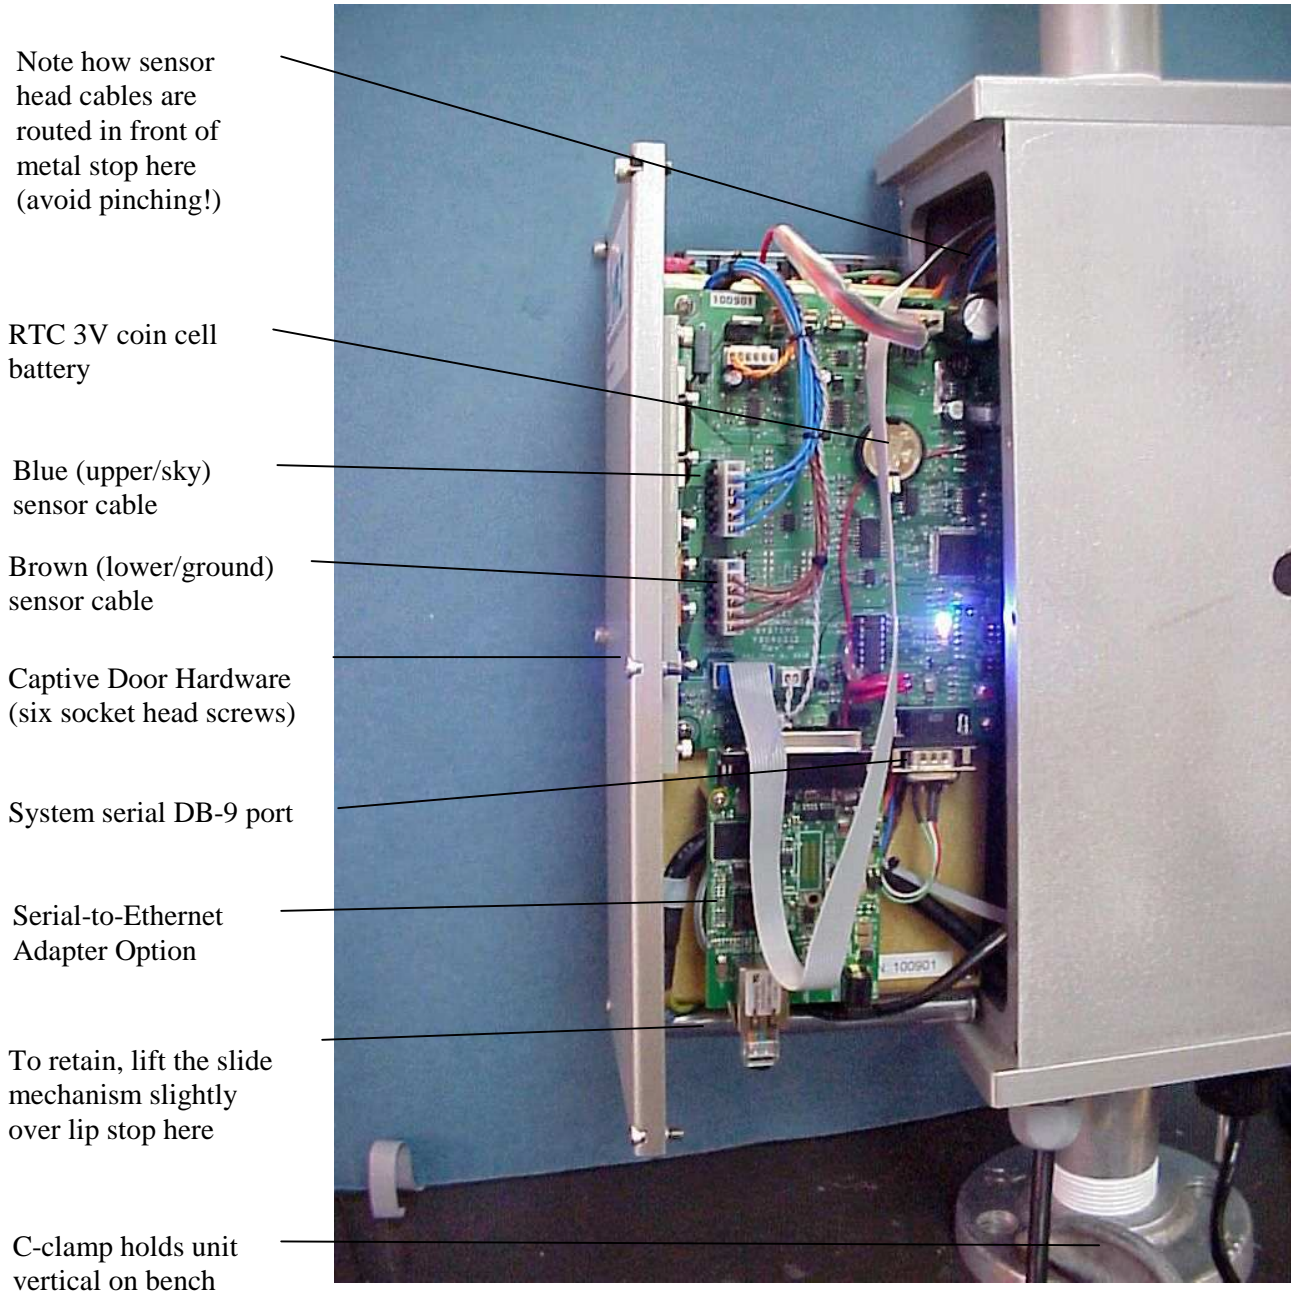
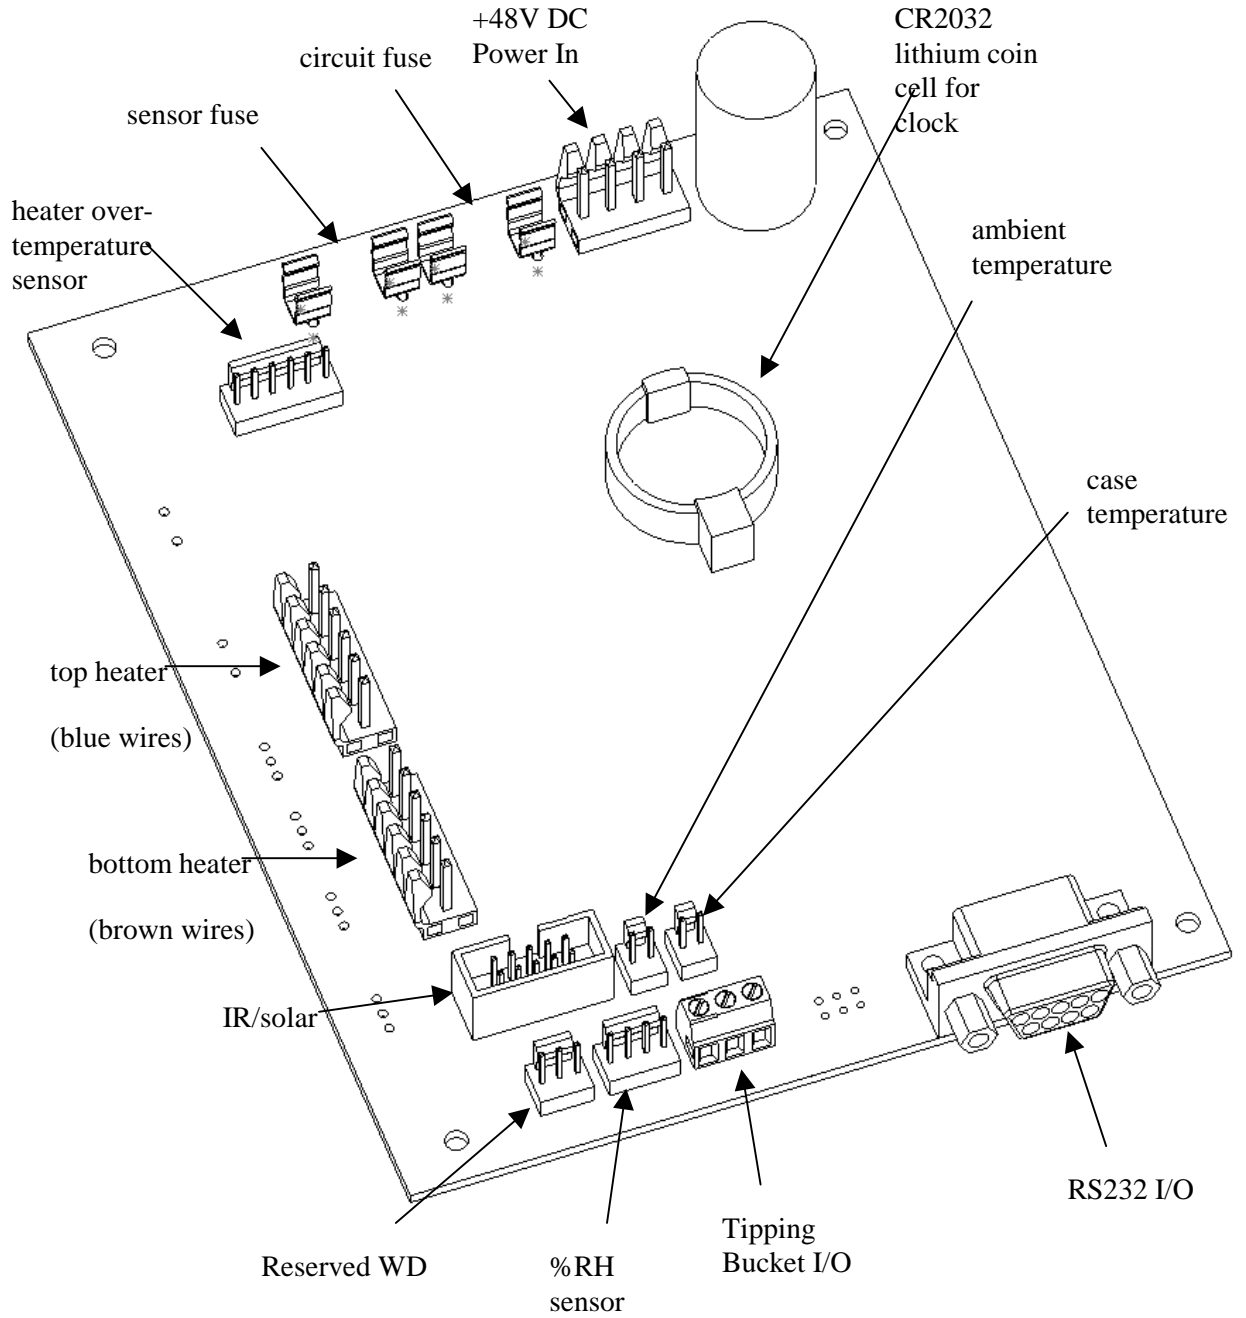

Figure 20. Electronics assembly shown with cover in open, extended position. (Revision H PCB with Serial-to-Ethernet adapter option at lower center.)
Figure 24. View of Revision H (2011) and later controller board.
- 3 As you loosen each of the six captive door screws, gently pull the cover out. Once all the screws are free of their threads, gently slide the cover out from the enclosure until it reaches the metal door stops. Do not try to pull the door completely out of the enclosure, it is designed to stop as shown in Figure 20.
- 4 **IMPORTANT:** Observe how the head sensor cable harness is draped over the upper door stop bracket as seen below and in Figure 20. It is critical to ensure that the system is reassembled with this harness in the correct position, so that these cables are not pinched when you seal the door. Also, note the position of the door gasket for re-assembly later.
- 8** Locate and identify the labels on the chassis. The top plate sensor blue cable goes on the lower header if positioned vertically, (or if the system is positioned horizontally as shown above in Figure 24, to the right). The lower plate sensor brown cable runs to the upper header (or if positioned horizontally, as in Figure 24, to the left). Carefully connect the three polarized cables to their respective positions as shown in Figure 20.
A separate 10A “fast blow” type fuse is located on the main controller board, shown in Figure 24, is the DC input fuse between the AC-DC power supply and the main controller electronic regulators. Always replace this 3AG fuse with the same type. If the DC fuse blows, this may indicate a pinched wire internally, or a serious short circuit condition in the head. Contact technical support via methods described in *In this Manual* located just after the table of contents.
If the internal real time clock loses its settings whenever AC power is lost, this indicates you need to replace the standby lithium coin cell CR-2032 battery located on the main PCB inside the electronics enclosure. Several factors dominate how long the battery will last including how long the system was not powered and temperature extremes. After several years, the battery will run down, requiring replacement. Refer to Figure 24 on page 4-13:
- 5 Referring to Figure 20 and Figure 24 locate the coin cell battery from the main PCB, noting its polarity in the socket. Replace it with a new “CR-2032” lithium cell, available from DigiKey, Newark Electronics, Mouser, Radio Shack and others. Insert the new battery using the same orientation.
Refer to Figure 20 on page 4-5 and Figure 21 on page 4-7, to replace the Head sensor assembly:
- 10 Reconnect the sensor cables in their correct locations on the controller board, as well as the temperature sensor connector. Note that the upper blue (sky) cable is the upper plate while the lower brown (earth) is the lower plate. See Figure 20. Be sure to verify the position of each connector and that they are fully seated.